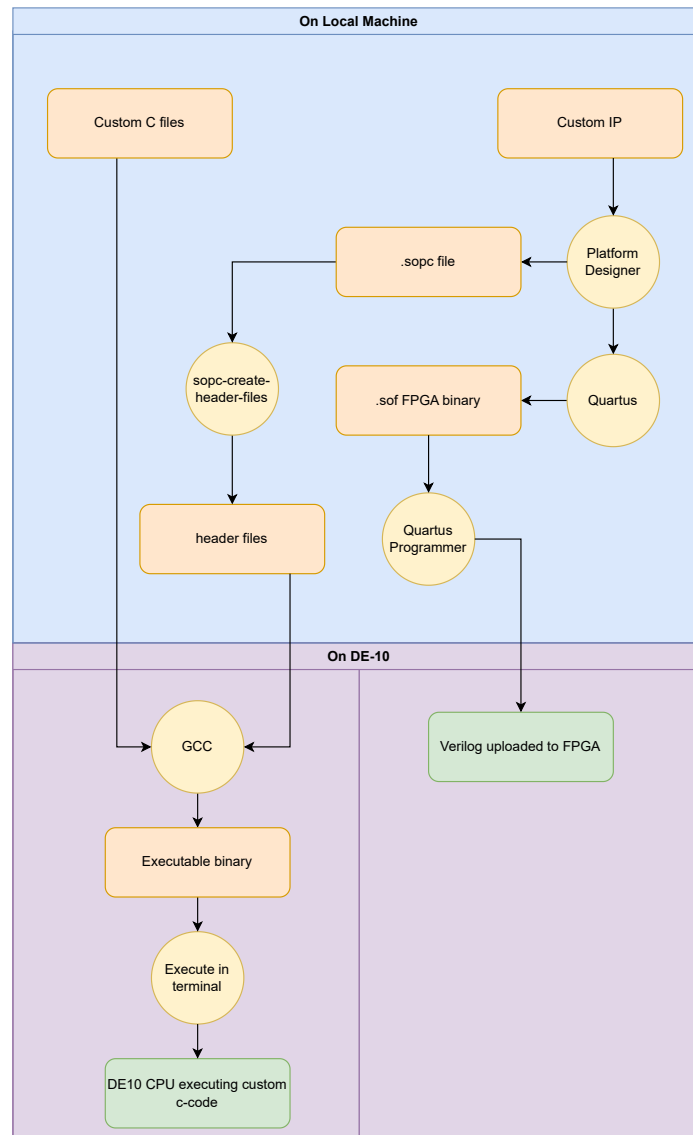

Figure 2.2: Tool-chain overview for FPGA/ARM development.
- Get familiar with the Altera Toolchain and the ARM Hard Processor System (Figure 2.2).